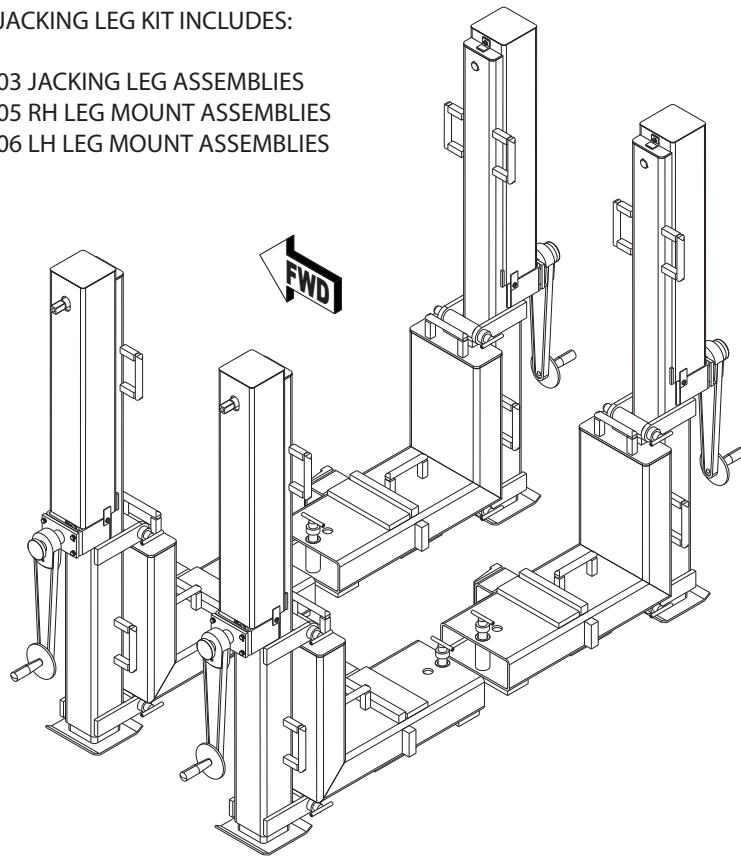

Figure 3.7-2 Optional AGSE-E21521-S07 Jacking Leg Kit
3.7.2 Optional Jacking Leg Kit (Figure 3.7-2)